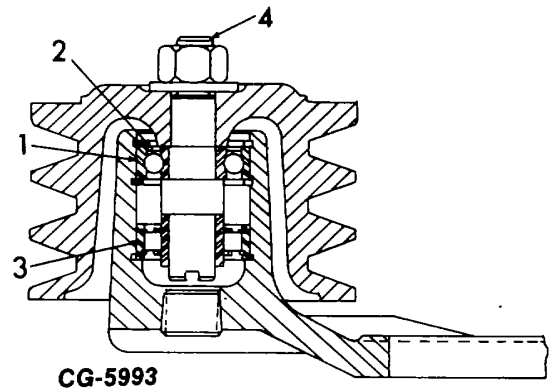

Figure 35. - Fan Idler Assembly
Inspect and Repair the Fan Idler Pulley with Front Ball Bearing and Rear Roller Bearing as follows: (Fig. 35)
1. Visually inspect the ball bearing (1, Fig. 35) for roughness, overheating or damage to the seal (2).
2. Inspect the roller bearing (3) and replace as necessary.
3. Inspect the pulley shaft (4) for cracks or thread damage.